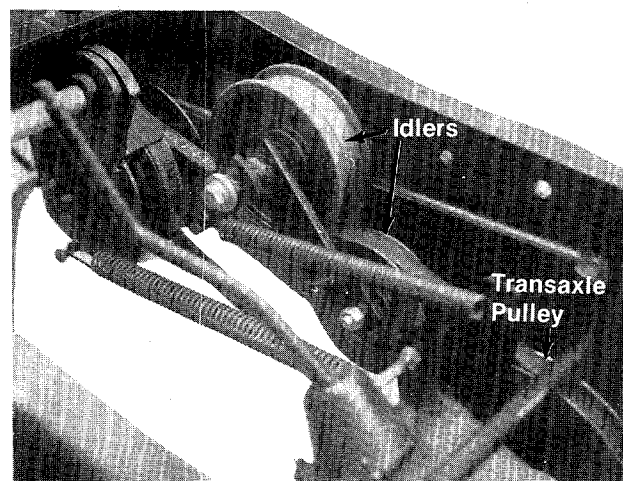

FIGURE 29.
10. Remove rear belt from the idlers and transaxle pulley. See figure 29.